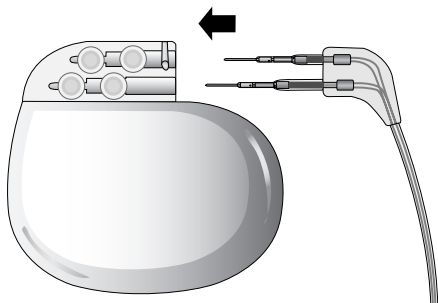

Figure 18. Insert extension connector pins into neurostimulator socket.
- c. Check that the encapsulated diagram on the extension matches the diagram on the neurostimulator. Insert the extension connector pins into the neurostimulator sockets until fully seated within the neurostimulator connector block (Figure 18).